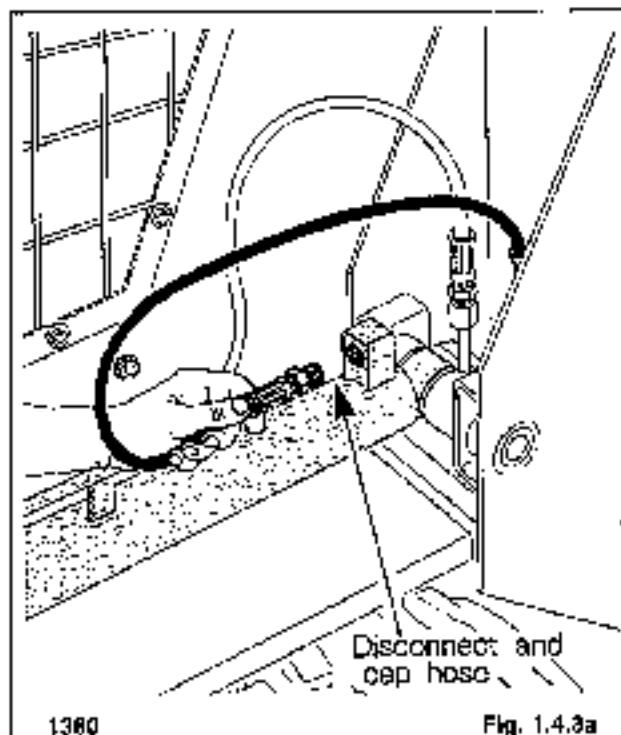

Fig. 1.4.3a
3. Disconnect the hydraulic hose from the boom cylinder rear port (fig. 1.4.3a). Cap the hose.